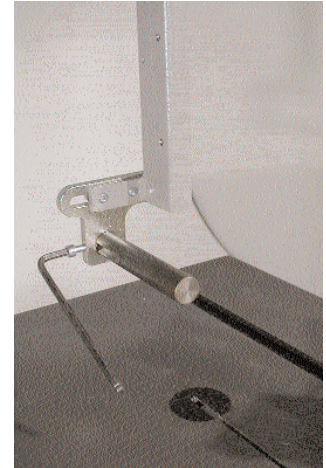

Fig. 22
4. Fit the support bar into the side adjustment bracket as shown in Fig 22 with the groove in the bracket.